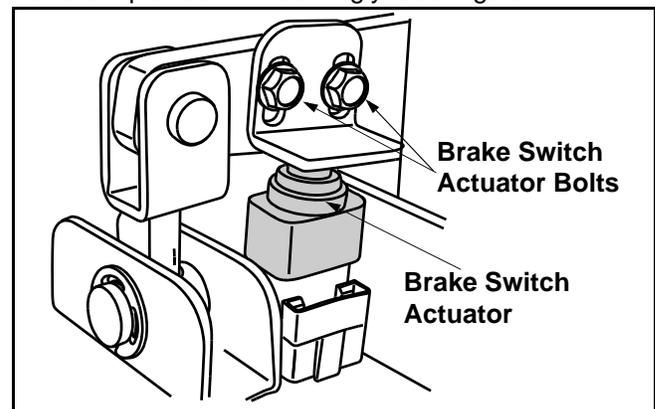

Figure 21
**IMPORTANT:** If gear selector buttons fail to work after making brake adjustment, adjust brake switch actuator upwards. If it is found that the gear selector buttons operate before the vehicle comes to a complete stop, adjust brake switch actuator downwards. To adjust, loosen brake switch actuator bolts, then move the actuator up or down accordingly. See Figure 21.